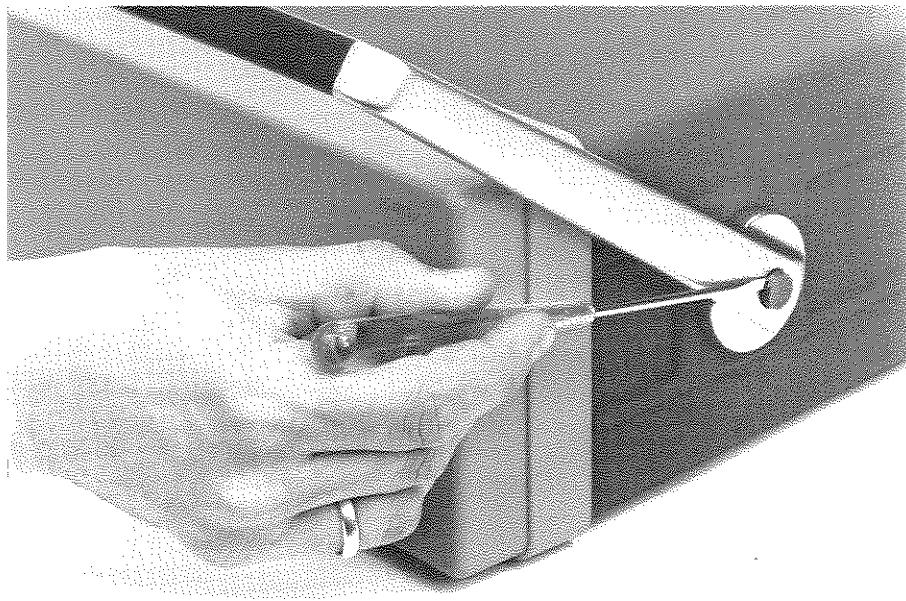

Fig. 3.19. Removing the carrying handle
The oscilloscope under test must be set in the following way to measure the voltage wave-forms as shown in Fig. 3.19:
- Prie off the centre knobs from each pivot, using a screwdriver (Fig. 3.19) in one of the small slots at the sides of the knobs.